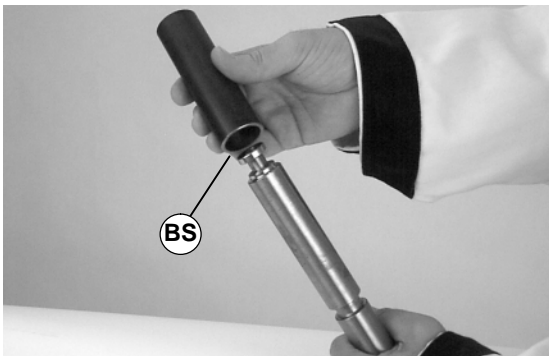

Figure 50
3. Slide the sleeve of tool (part # 450282) (BS of Figure 50) over bearing.